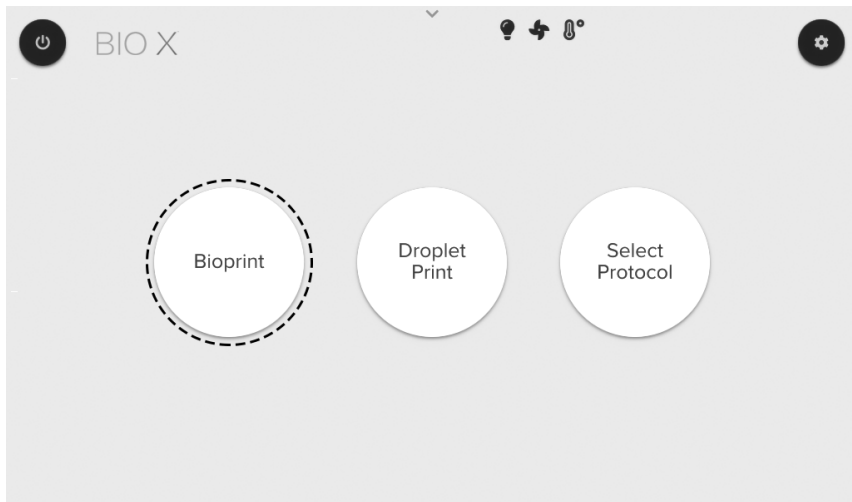

Figure 9: The Start menu. Select Bioprint to proceed to set up a print.
2. Select Bioprint from the Start menu (Figure 9).